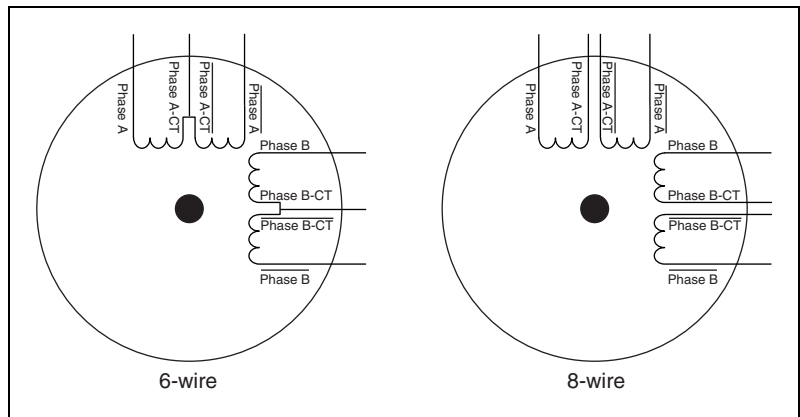

Figure 18. 6-Wire and 8-Wire Stepper Motors
2-phase stepper motors come in 4-, 6-, and 8-wire variations. Figure 18 shows a 6-wire and an 8-wire stepper motor. A 4-wire motor is the same as a 6-wire motor except that the center taps (CT) are not brought out.